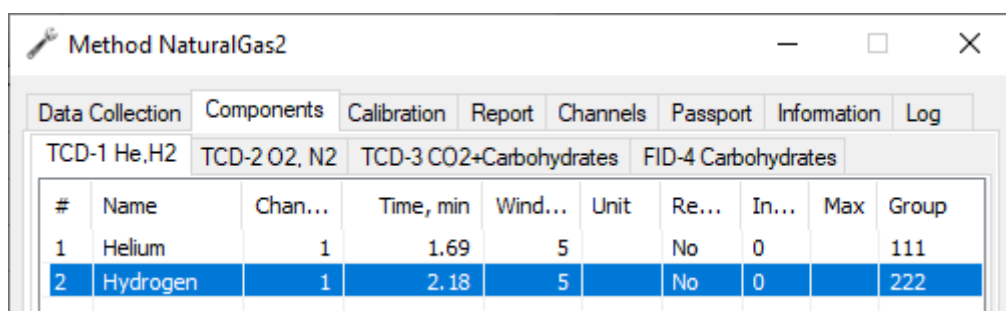

Fig. 57: Method > Components
3. In the *Method* window, go to the *Components* tab (Fig. 57):